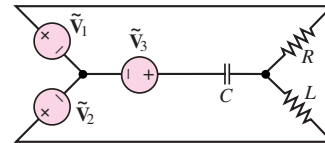

Figure P7.53
**7.53** Determine the current through  $R$  in the circuit of Figure P7.53: